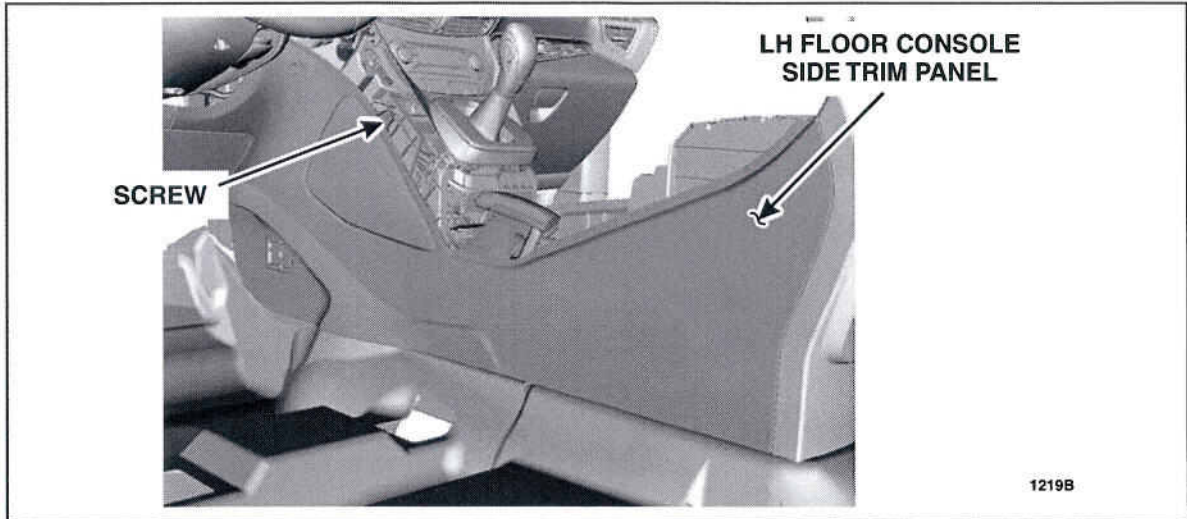

FIGURE 6
7. Remove and discard the LH floor console side trim panel. See Figure 6.
9. Install a *new* LH floor console side trim panel containing a revised surface contour. See Figure 6.